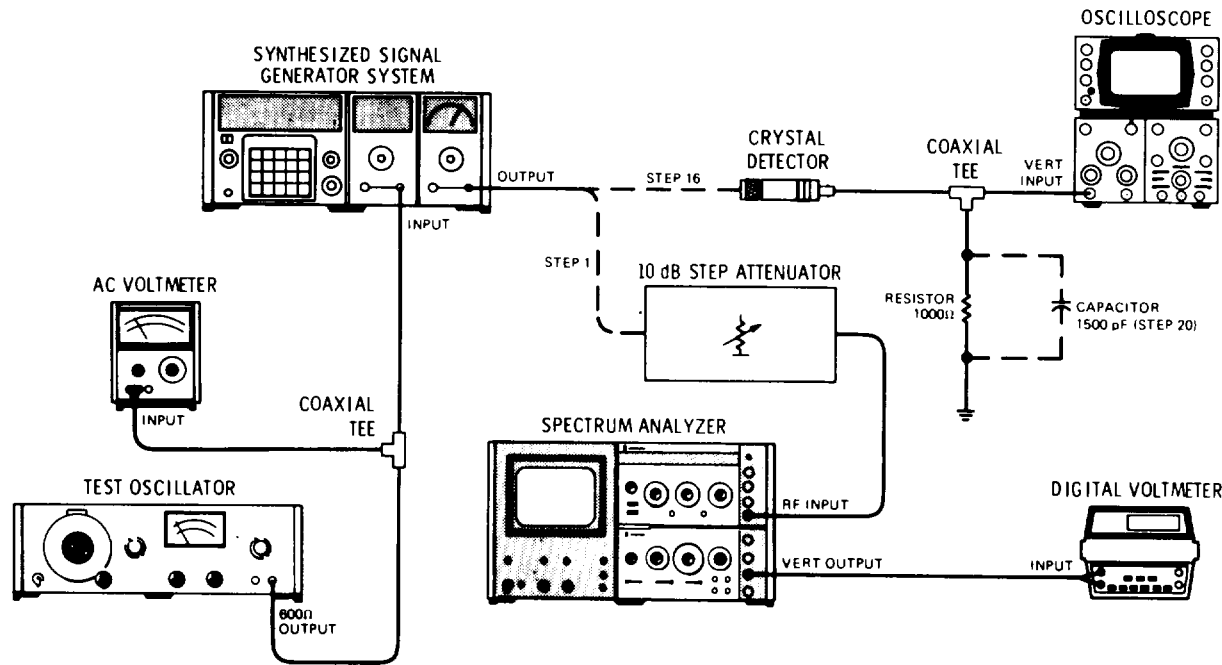

Figure 4-6. Amplitude Modulation Depth and 3 dB Bandwidth Test Setup
1. Connect the equipment as shown in Figure 4-6 (step 1).
20. Install the 1500 Pf capacitor as shown in Figure 4-6.